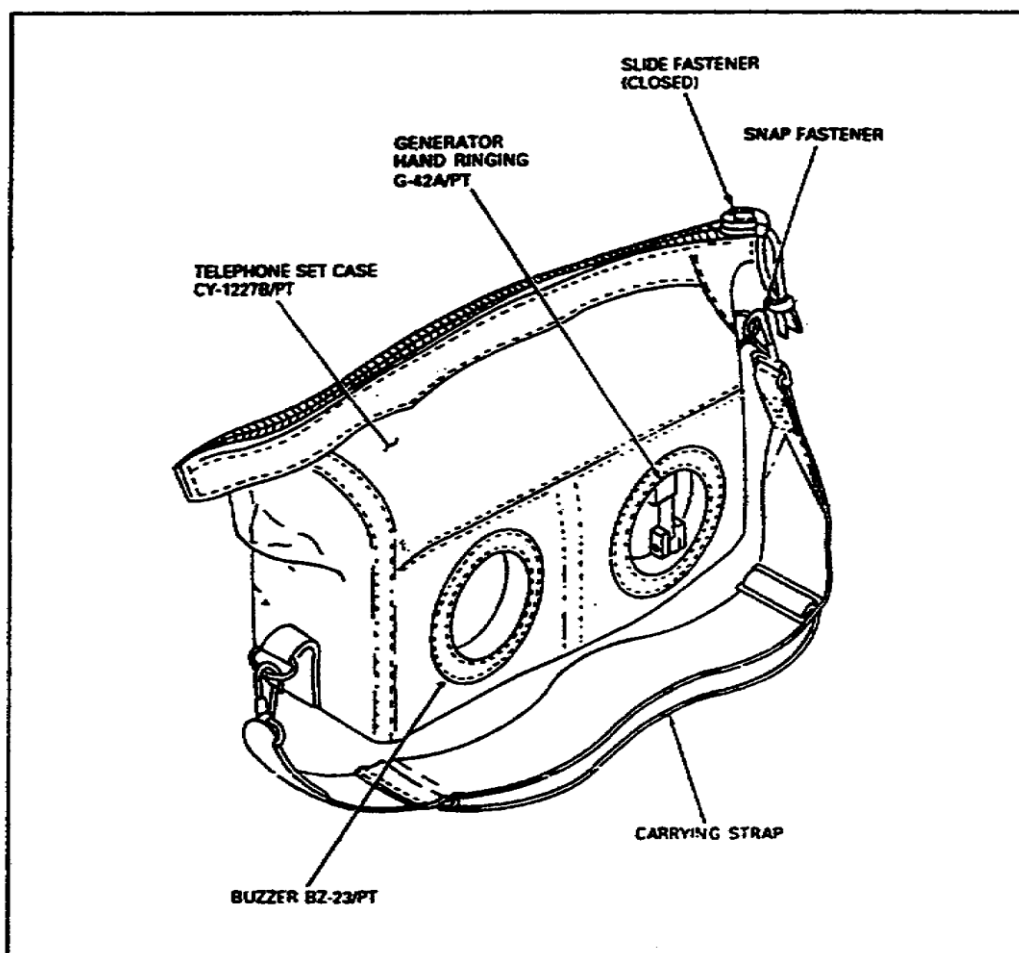

Figure 1-1. Telephone set TA-312/PT, case closed.
4. All connections and operating controls of the TA-312/PT are located on the panel assembly and housing. The handcrank (part of generator, ringing, hand G-42A/PT) for generating the ringdown signal is located on the side of the housing. Connector, receptacle U-79/U allows connection of handset-headset H-144()/U for use in place of the H-60/PT. (See Figure 1-1.)